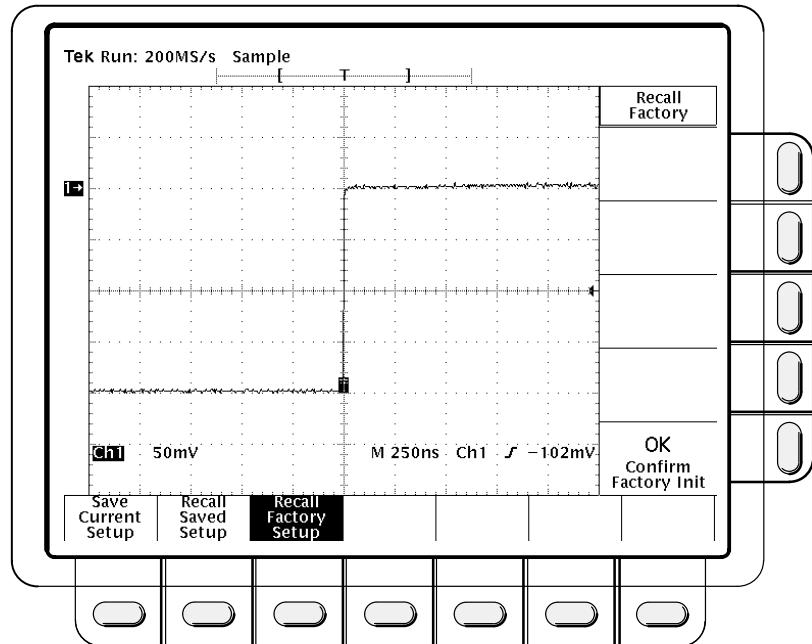

Figure 5-2: Timing Compensation Waveform
17. Press **AUTOSET**. Then adjust the vertical **POSITION** control to center the waveform on the screen so that the trigger arrow is at the center graticule, set the **VOLTS/DIV** to 50 mV, and set the **SEC/DIV** to 250 ns. This should result in a waveform similar to the one shown in Figure 5-2.